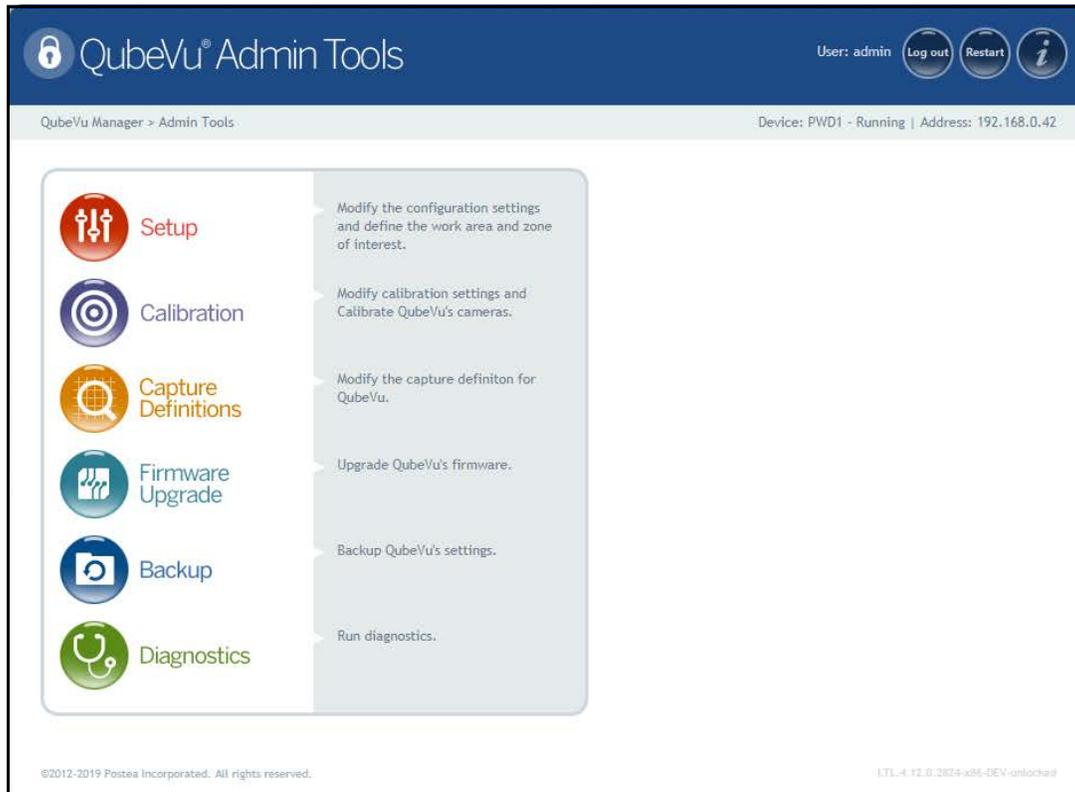

Figure 2-2. Admin Tools Menu
3. Press  **Setup** from the **Admin Tools** menu (Figure 2-2 on page 5) to enter the **Setup** menu.